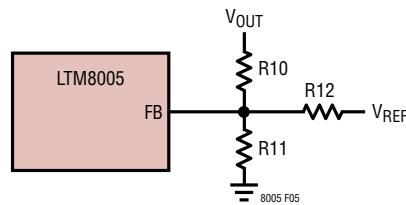
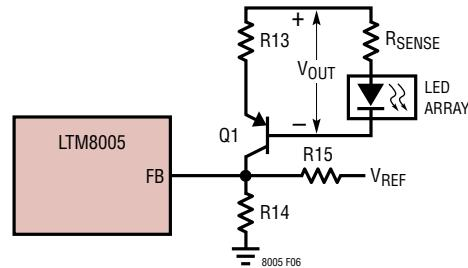

Figure 5. Feedback Resistor Connection for Wide Range Output in Boost and SEPIC Applications
Figure 6. Feedback Resistor Connection for Wide Range Output in Buck-Boost Mode or Buck Mode Applications
0.45A or FB drops below 1.19V (typical). The SHORTLED pin is asserted if the output current is about 2.4A or the FB pin falls below 300mV (typical) after initial start-up and SS reaches about 1.7V. The ratio between the FB OPENLED threshold of 1.2V and the SHORTLED threshold of 0.3V can limit the range of  $V_{OUT}$ . The range of  $V_{OUT}$  using the maximum SHORTLED threshold of 0.35V is about 3.5:1. The range of  $V_{OUT}$  can be made wider using the circuits shown in Figure 5 and Figure 6. For a  $V_{OUT}$  range that is greater than 8:1, consult factory applications.
The equations to widen the range of  $V_{OUT}$  are derived using a SHORTLED threshold of 0.35V, an OPENLED threshold of 1.2V and a reference voltage  $V_{REF}$  of 2V. The resistor values for R11 and R12 in Figure 5 can be calculated as shown below. See the example that follows for a suggested R10 value.
The resistor values for  $R_{14}$  and  $R_{15}$  in Figure 6 can be calculated as shown below. See the example that follows for a suggested  $R_{13}$  value.